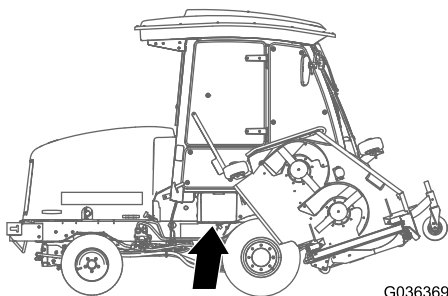

Figure 83
1. Open the battery cover on the side of the shroud (Figure 83).
**Note:** Press down on the flat surface above the battery cover to ease the removal of the cover (Figure 83).